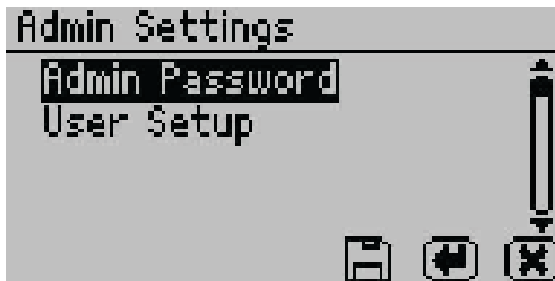

Figure 36 Admin Settings option
- **Admin Settings.** Select to create an administrator password as well as create, edit, and delete additional users (Figure 36).